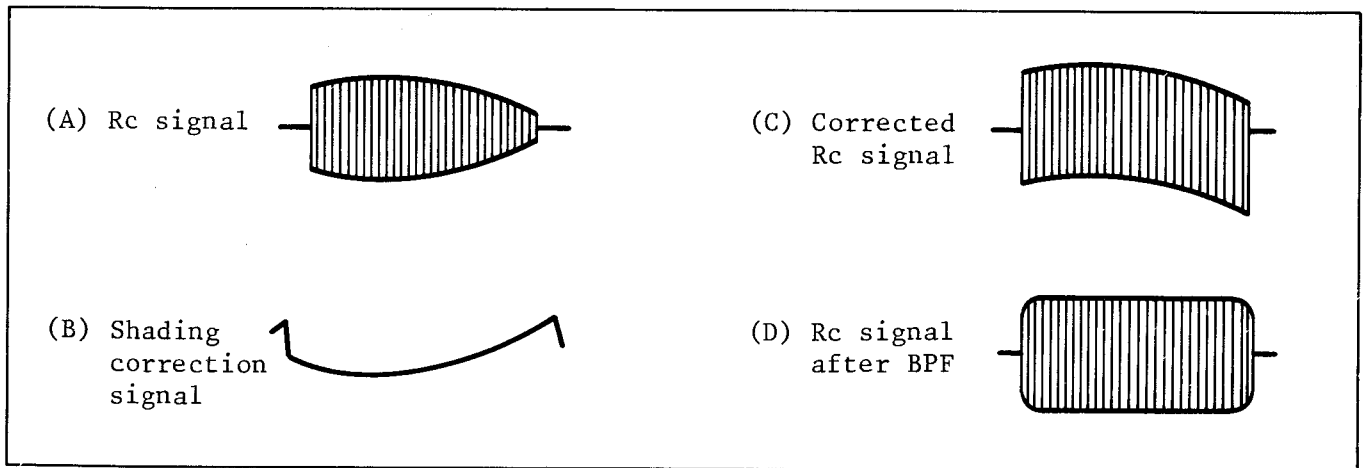

Fig. 13. Shading Correction
Suppose a uniformly illuminated white object is seen by the camera and the R color component signal has a shading (error) such as that shown in Fig. 13 (A). In this case, a shading correction signal (B) is generated by the shading correction circuit (which is set to the proper level during alignment). The R signal (A) is modulated by the shading correction signal (B), and a corrected R signal (C) is produced. This shading correction signal is mixed with the R signal (C) by a differential amplifier, and the R signal (D) is obtained. The color shading correction of the B signal is similar.